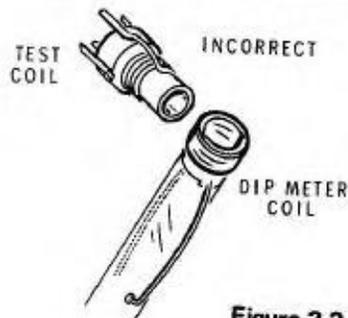

Figure 2-2
3. Refer to Figure 2-2 and position the end of the meter coil close to, and directly in line with, the coil or inductance to be tested.